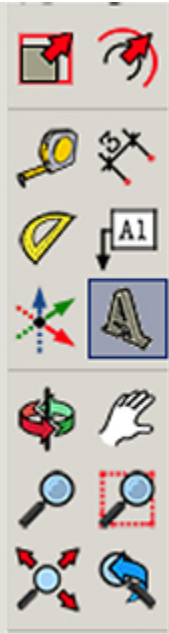
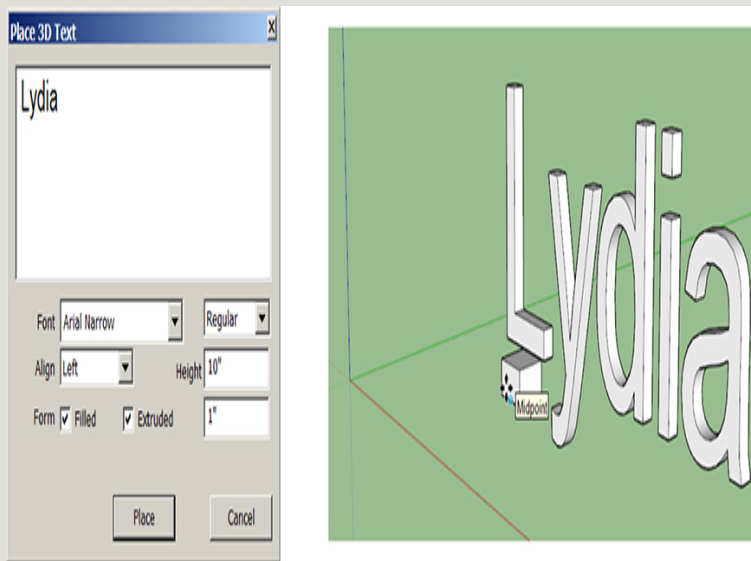

Figure 3-13 The 3D Text tool.
Figure 3-14 Type your name with the 3D Text tool. Run the tool over a vertical face of the cube to help orient the text vertically.
1. Model your name. Activate the 3D Text tool (Figure 3-13) located on the Large Tool Set. A dialog box appears: type your name, or my name if you want to follow this tutorial along exactly as is. If the text won't stand straight up, run the Text tool over a vertical face on the cube (Figure 3-14). It will orient to that face. Then click to place. You can't edit this text once you click it, at least without an editing extension. So if you want to change it later, delete and redo it.